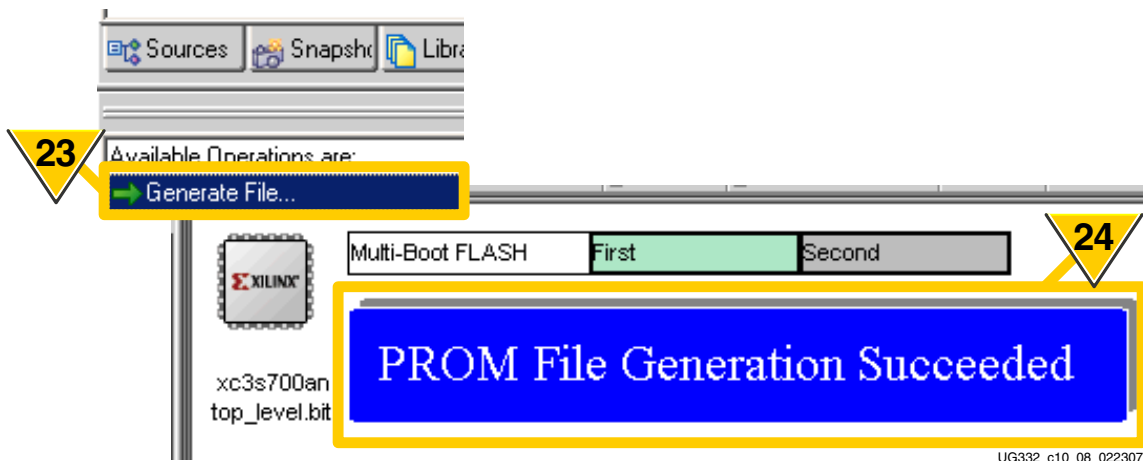

Figure 10-11: Generate the Spartan-3AN In-System Flash File
- As shown Figure 10-11, click **Generate File**.